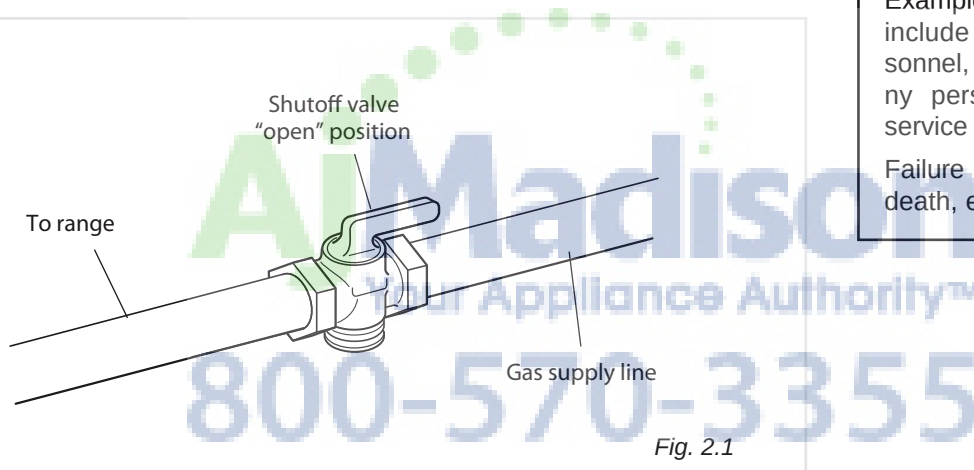

Fig. 2.1
1. Manual Shut-off Valve (fig: 2.1):